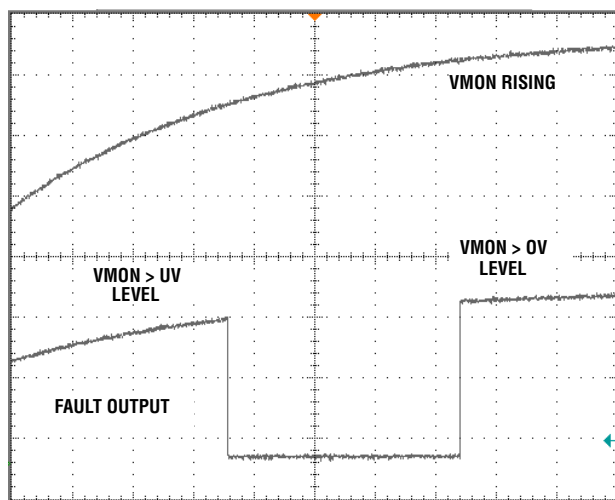

FIGURE 6. VMONITOR RISING TO FAULT
**VMONITOR** ramping up and down through the UV and OV levels will result in the **FAULT** output signaling the out of bound conditions by being released to pull high to the **VHI** voltage as shown in Figures 6 and 7.